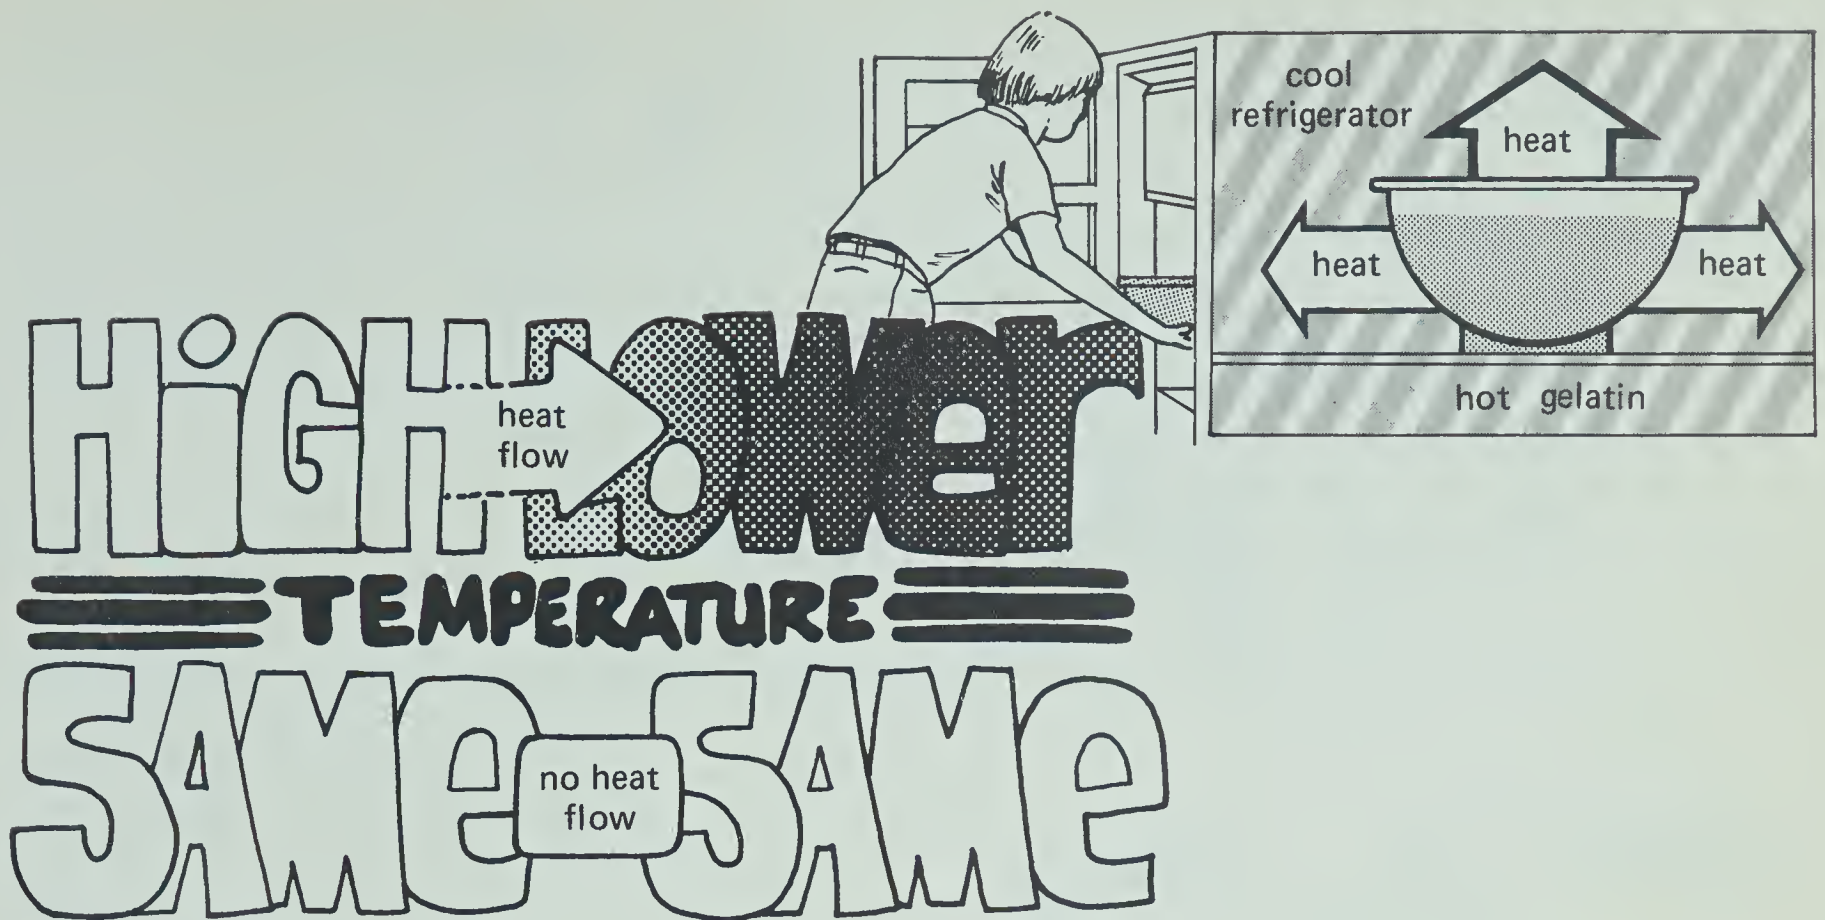

Figure 4-1
- 4-2. Look at Figure 4-1 above. When two substances, such as air and gelatin dessert, are at different temperatures, which way does heat flow?